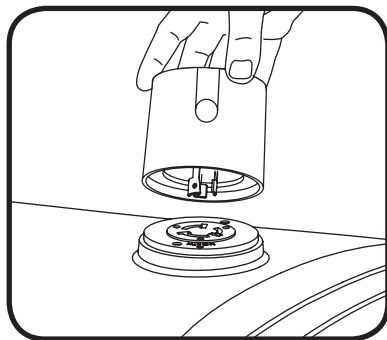

Figure 1
C. Plug in the node: Orient controller so large blade aligns with large slot in receptacle. Plug in, then twist clockwise until it is fully locked in place (Figure 1).